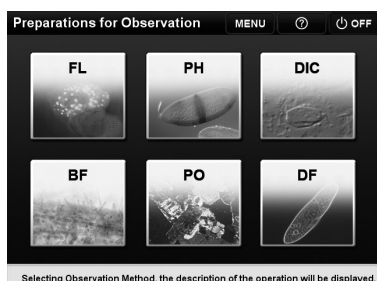

Fig. 16
2. When the [Preparation for Observation] screen is displayed (Guidance mode only), tap the observation method to be used (Fig. 16). When the [Observation Menu Description] screen is displayed, read it and then tap the [X] button.